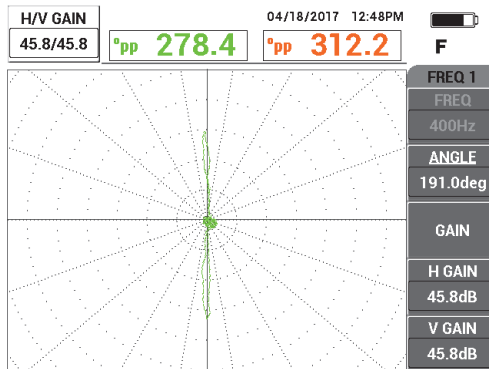

Figure 5-196 Adjusting the gain
- Press the GAIN key (**dB**), and then increase the gain until the hole signal reaches approximately 4 to 6 vertical divisions in height. Press the FREEZE key (❄) to enable signal acquisition (see Figure 5-196 on page 267).